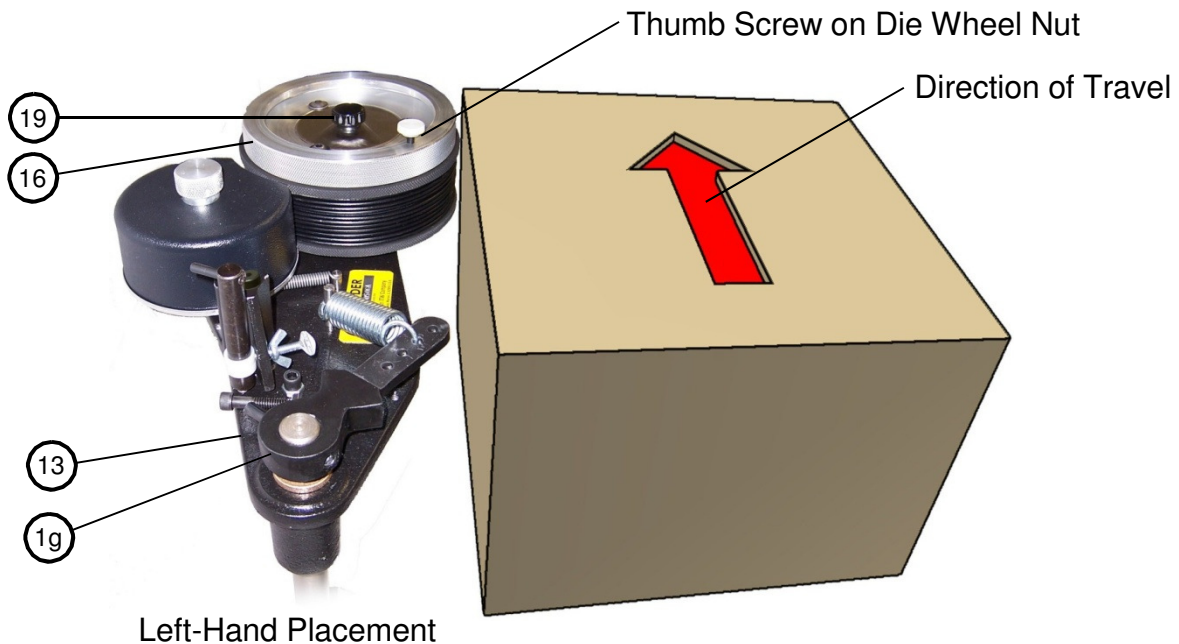

FIGURE 1
1. The SL-C Coder should be mounted so that the object to be printed contacts the die wheel with about 1/4" interference (see figure 1).
1. DiLok Type Changes—Loosen die wheel nut (#16, Figure 1) at the top of the die wheel to release DiLok Rings for easy insertion or removal of type. After type change is complete, be sure type is seated on DiLok rings and securely tighten die wheel nut.
4. Adjustment for pressure against object to be imprinted (see figure 1) - To obtain more printing pressure, place spring in a hole position farther to the end of the return arm (#1g).
LOCATION OF IMPRESSION WANDERS WITH RELATION TO OBJECT BEING PRINTED (See Figures 1 & 2)